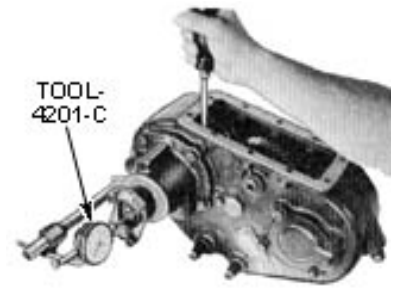

Figure 20 – Checking Front Drive Output Shaft End Play
21. Install a dial indicator on the front drive output shaft and check the end play as shown in Fig. 20. The end play should be 0.003-0.005 inch. If not within these limits, adjust the shim pack at the front output shaft rear cover.